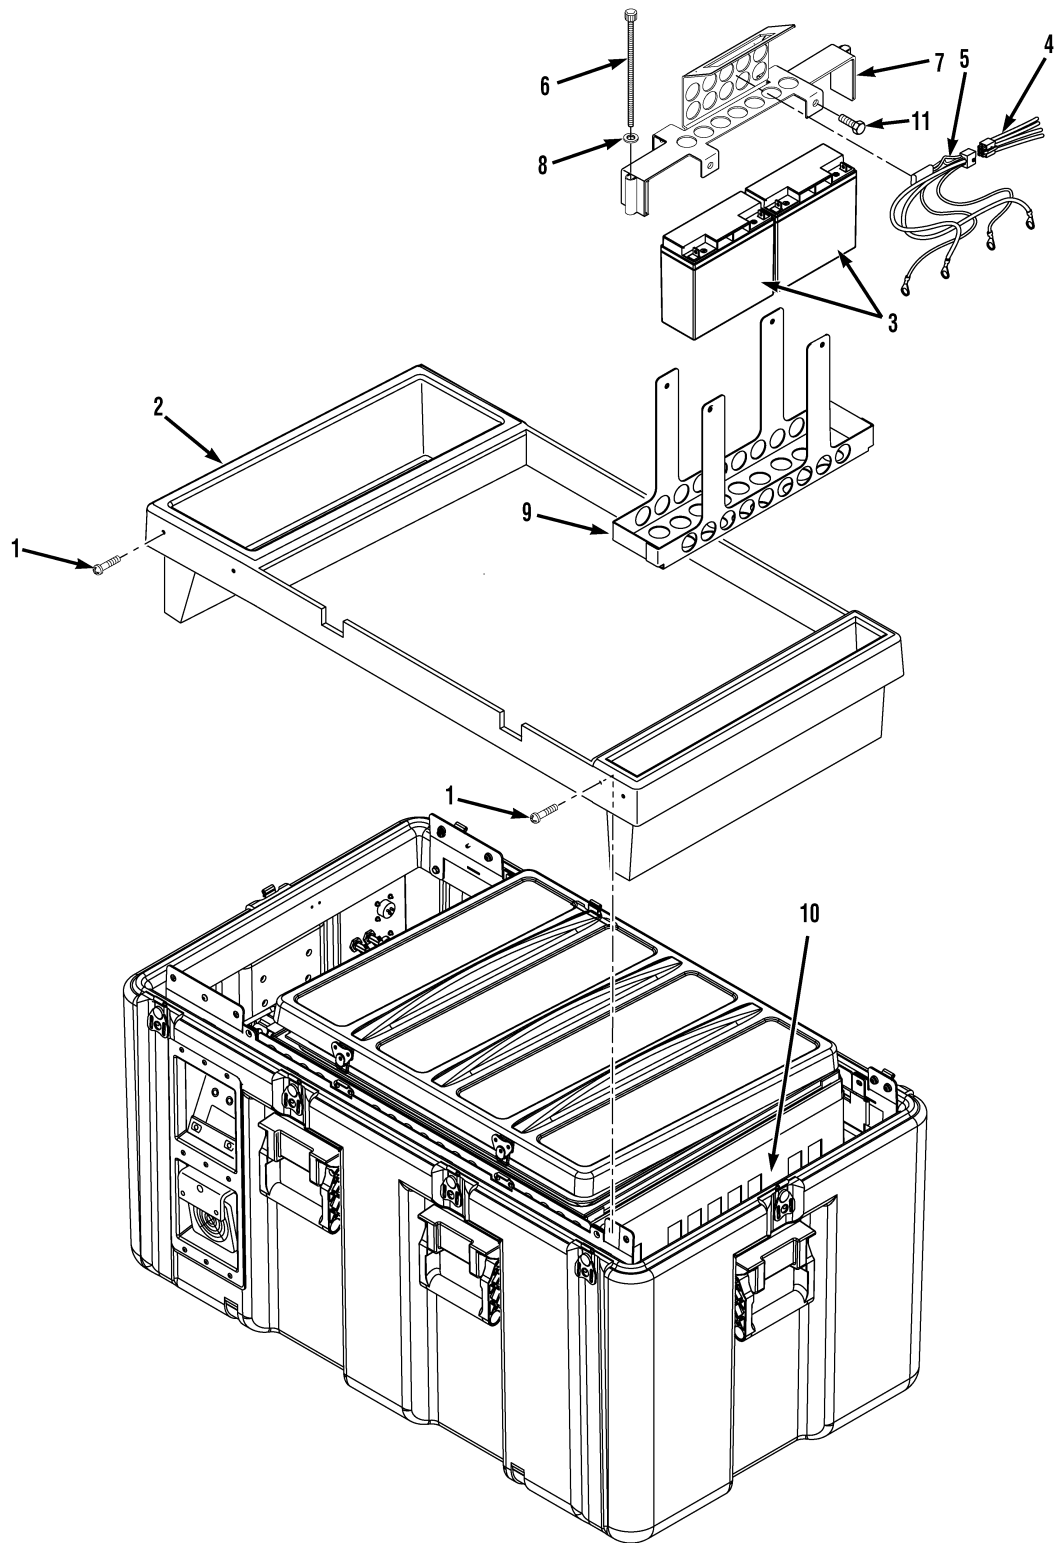

Figure 2-5. Replacement of Batteries
- (1) Disconnect all external power sources and prepare unit for maintenance (Para 2-1).
- (2) Remove contents from the cover panel (2, Figure 2-5).
- (3) Remove eight screws (1) and cover panel (2).
- (4) Disconnect the batteries (3) by removing the battery power harness (4) from the fusible link assembly (5).
- (5) Remove the two screws (6) and washers (8) that secure the battery lockdown bracket (7) to the chassis (10).
- (1) Disconnect all external power sources and prepare the unit for maintenance (Para 2-1).
- (5) Remove the two screws (6) and two washers (8) that secure the battery lockdown bracket (7) to the chassis (10).